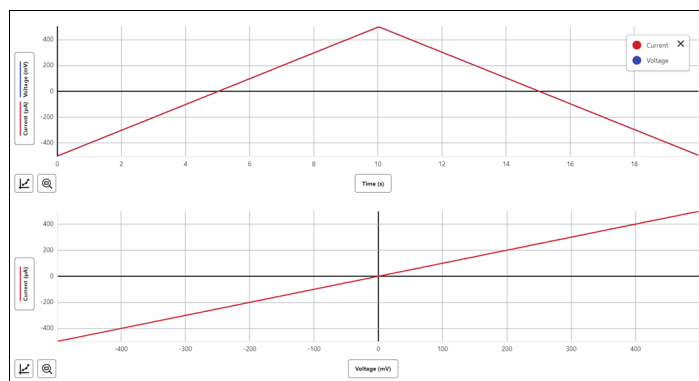

Figure 2
2. The cyclic voltammetry potential waveform set in the software was actually measured by the instrument. As shown in Figure 2, the CVS reports a potential waveform as programmed, starting at  $-493.5 \text{ mV}$ , sweeping positively to  $497.4 \text{ mV}$ , and returning back to  $-497.8 \text{ mV}$ . Each of these segments are within the tolerance for the system; therefore, the cyclic voltammetry potential waveform set in the software was actually measured by the instrument.